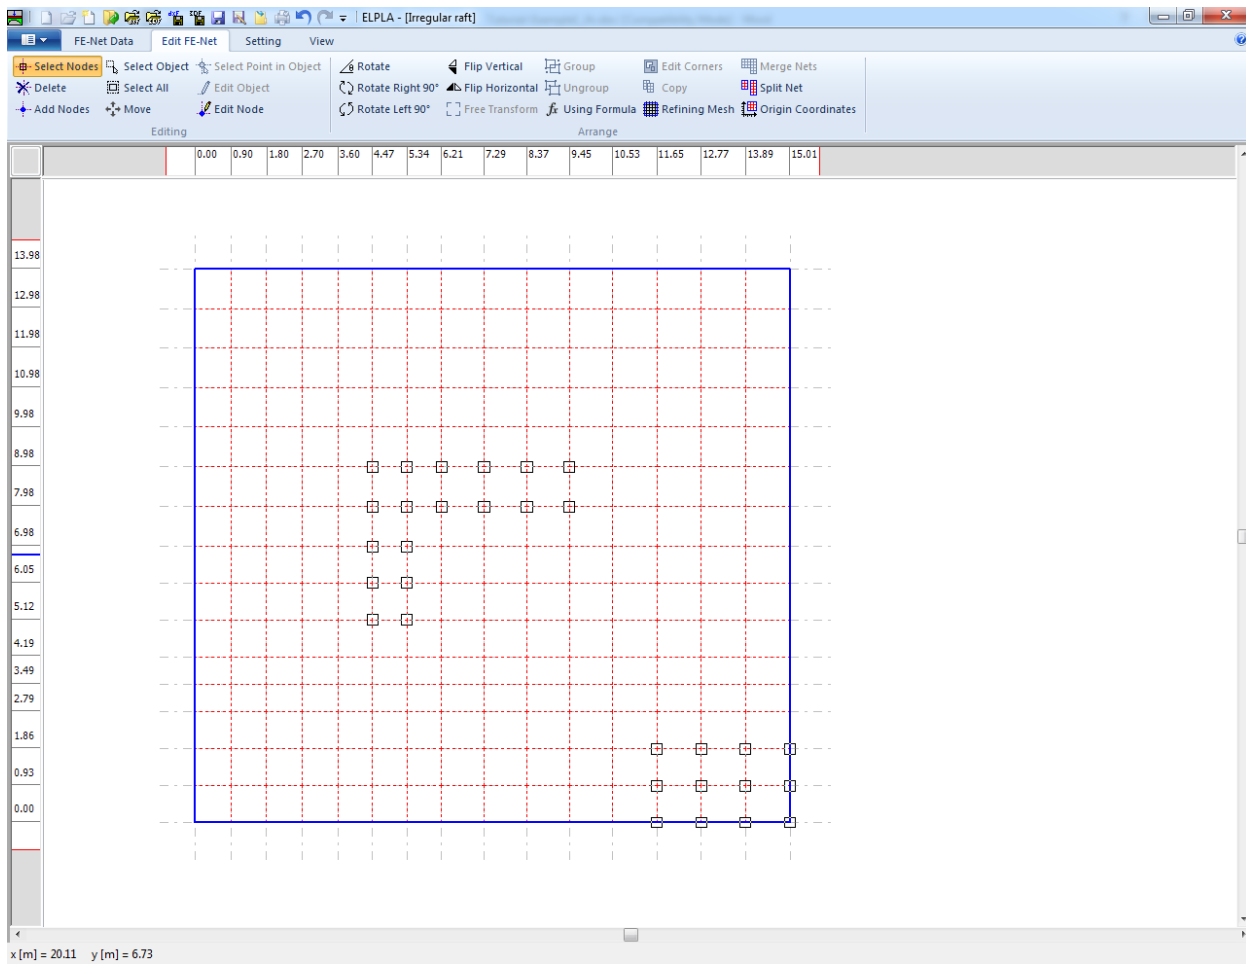
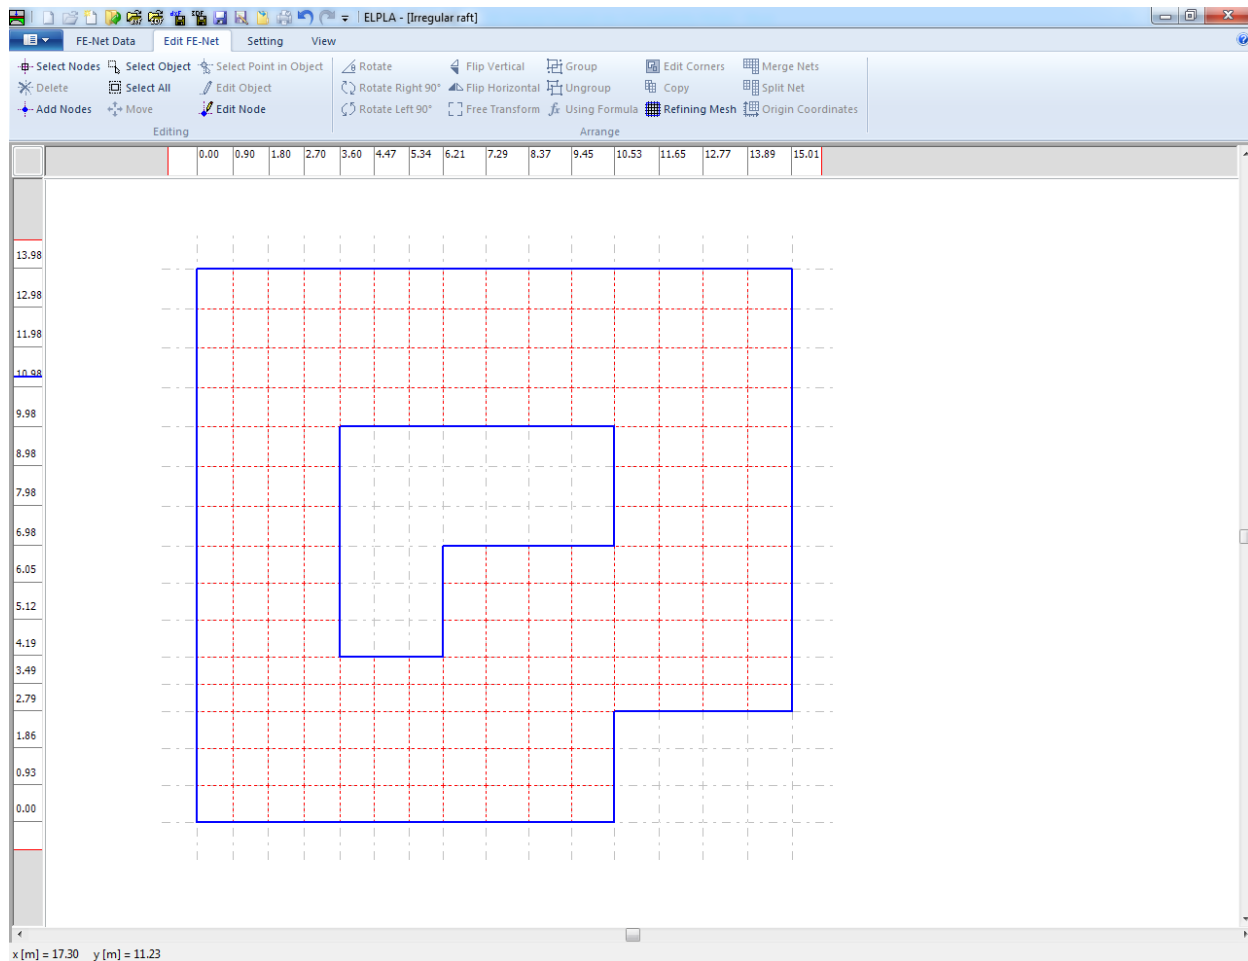

Figure 1.14 Generated FE-Net after selecting the unnecessary nodes
Figure 1.15 Final FE-Net after deleting the unnecessary nodes
To select the unnecessary nodes which are required to be removed from the net, first choose "Select Nodes" command from "FE-Net Data" Tab (Double click anywhere will also activate the select nodes mode). When "Select Nodes" command is chosen, the cursor will change from an arrow to a cross hair. If any node is selected, the command "Delete" in "Edit FE-Net" menu will be enabled, indicating the mode in which is being operated. Next, select the required nodes by clicking on each node individually or selecting a group of nodes as shown in Figure 1.14. To remove the selected nodes, choose "Delete" command from "Edit FE-Net" menu. The action of this command is indicated in Figure 1.15. To leave the graphic mode, press "Esc" key.
- Choose "Save" command from "File" menu in Figure 1.15 to save the data of the FE-Net
- Choose "Close" command from "File" menu in Figure 1.15 to close the "FE-Net" Window and return to ELPLA main window.